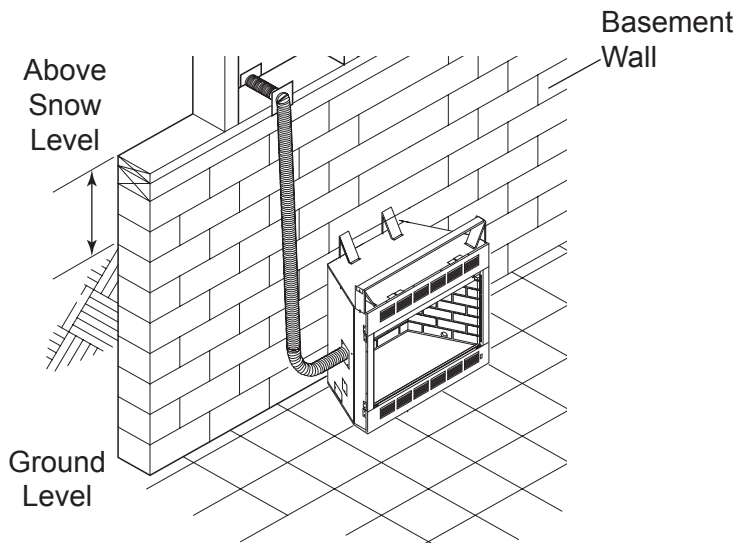

Figure 17 - Basement Installation
6. Avoid extremely long runs and numerous turns in the duct leading from the fireplace to the combustion air assembly. See Figures 17 through 20 for methods of installing the outside air for combustion assemblies.